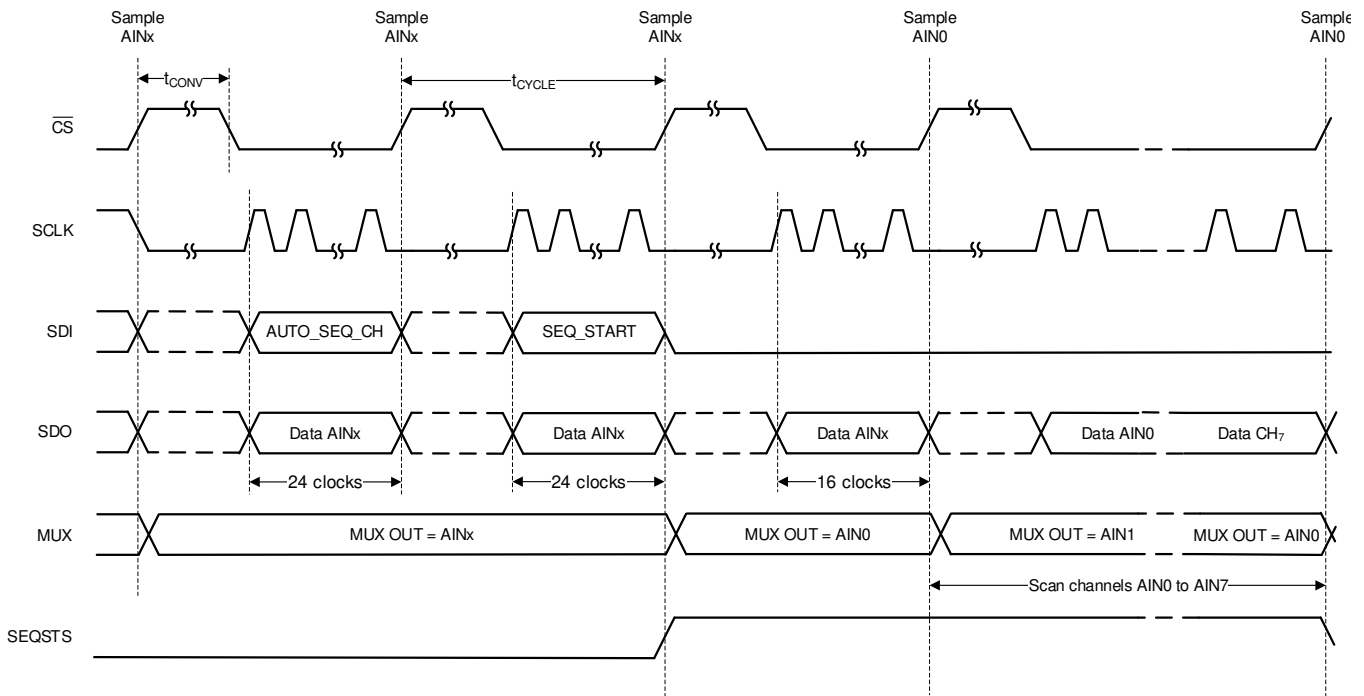
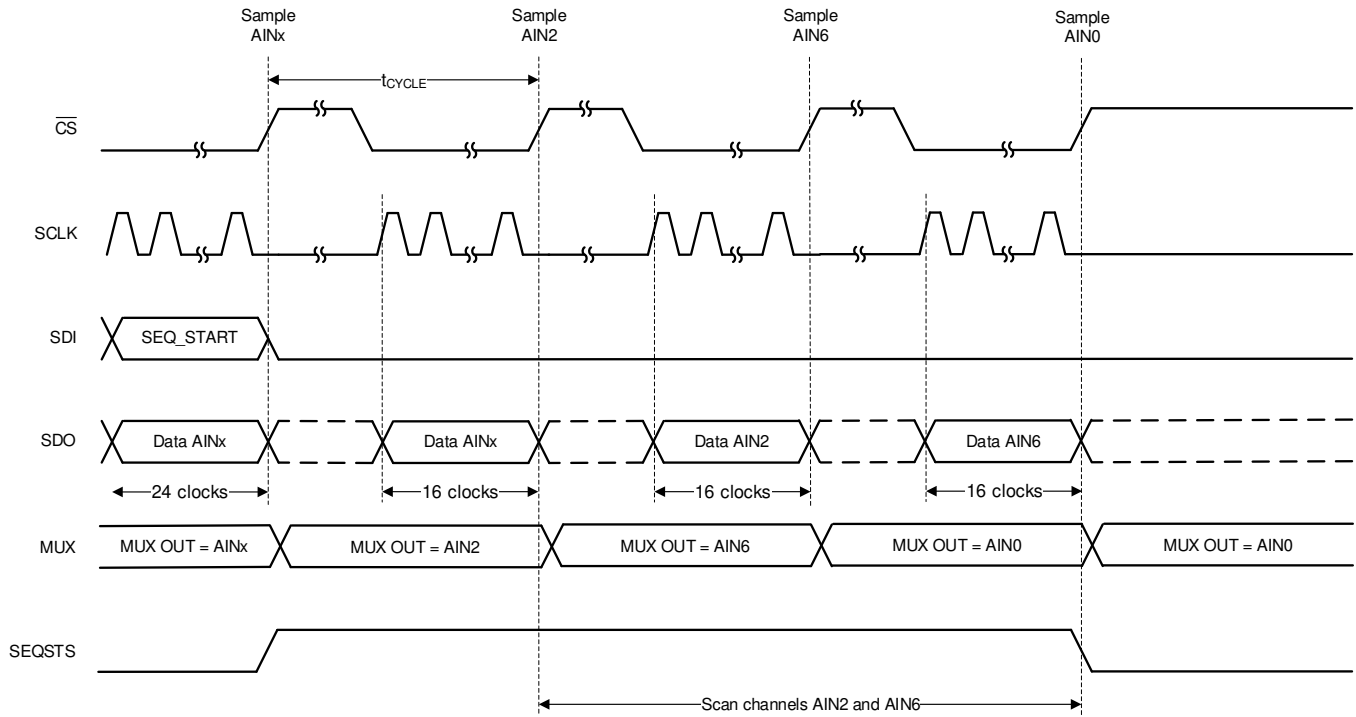

图 46. Starting a Sequence in Auto Sequence Mode
图 47. Example: Scanning Channels 2 and 6 in Auto Sequence Mode
In auto sequence mode, the internal channel sequencer can selectively scan channels from AIN0 through AIN7 in ascending order. To select auto sequence mode, configure SEQ_MODE to 10b in the DEVICE_CFG register using a 3-byte register access. One or more channels among AIN[7:0] can be enabled by configuring the AUTO_SEQ_CFG1 register. By default all analog input channels are enabled. After enabling the desired channels, the sequence can be started by setting SEQ_START to 1b. The ADC auto-increments through the enabled channels after every CS rising edge. When SEQ_START is set to 1b, the SDO-1/SEQSTS pin is at logic 1 as shown in Figure 46 until the last channel conversion frame is complete. After the last enabled channel conversion is complete, channel AIN0 is selected and SDO-1/SEQSTS is in a high-impedance state.
As an example, Figure 47 depicts a timing diagram for when the device is scanning AIN2 and AIN6 in auto sequence mode. When AIN6 is converted, SDO-1/SEQSTS is Hi-Z and AIN0 is selected as the active channel. At the end of sequence, if more conversion frames are launched the device returns valid data corresponding to AIN0.
- Configure the AUTO_SEQ_CFG1 register. In Figure 47, AUTO_SEQ_CFG1 = 0x44.
- 配置 `AUTO_SEQ_CFG1` 寄存器。在图 47 中，`AUTO_SEQ_CFG1 = 0x44`。
After configuring the channel scanning order, start index, and stop index the scanning can be initiated by setting the SEQ_START bit to 1b. The ADC scans through the enabled channels after every CS rising edge as defined by the channel scanning order. When SEQ_START is set to 1b, the SDO-1/SEQSTS pin is pulled high until the last channel conversion frame is complete, as described in 图 46. As illustrated in 图 47, channel AIN0 is selected and SEQSTS/SDO-1 goes to Hi-Z after the last enabled channel conversion is complete.
As an example, 图 47 provides a timing diagram for when the channel configuration is set as in 表 5. When AIN6 is converted, SEQSTS/SDO-1 goes to Hi-Z and AIN0 is selected as the active channel. If more conversion frames are launched at the end of the sequence, the device returns valid data corresponding to AIN0.
- Configure the CCS_START_INDEX and the CCS_END_INDEX registers. In 图 47, CCS_START_INDEX = 0 and CCS_STOP_INDEX = 1.
- Configure the CCS_SEQ_LOOP register to 1 to indefinitely loop the sequence. In 图 47, the CCS_SEQ_LOOP register = 0b.